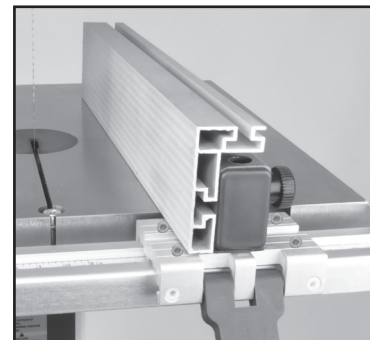

FIGURE 35
4. Once in place, retighten the side knobs to secure the fence in position on the carrier. FIG. 35.